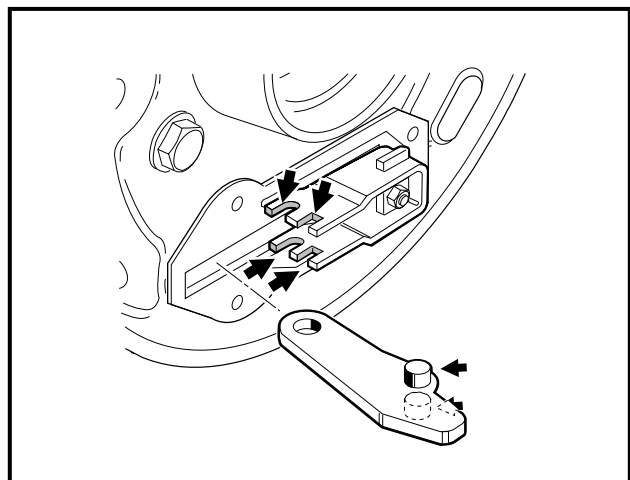

Figure 6-9 Grease Actuator
6. Use a small brush to carefully apply a liberal amount of white lithium NLGI #2 grease (Dow Corning BR2-Plus or equivalent) to the brake actuator assembly as shown (Figure 6-9, Page 6-4). See preceding WARNING.